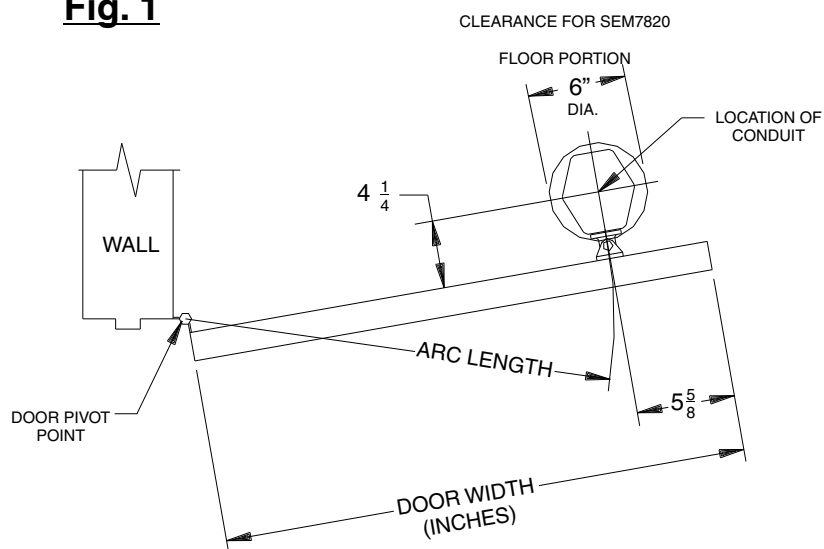

Fig. 1
- Guide the conduit through the hole in the base and snug up the conduit nut. Square up the base to the door, with the door opened to the desired position, as shown in Fig.1.